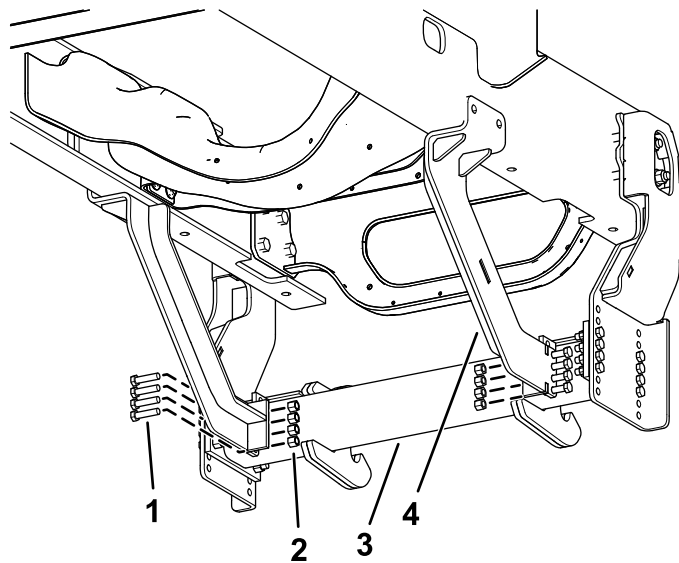

Figure 3
6. Secure the angle brackets to the pushbeam assembly using 8 bolts (1/2 x 2 inches) and 8 nuts (1/2 inch) as shown in Figure 3.